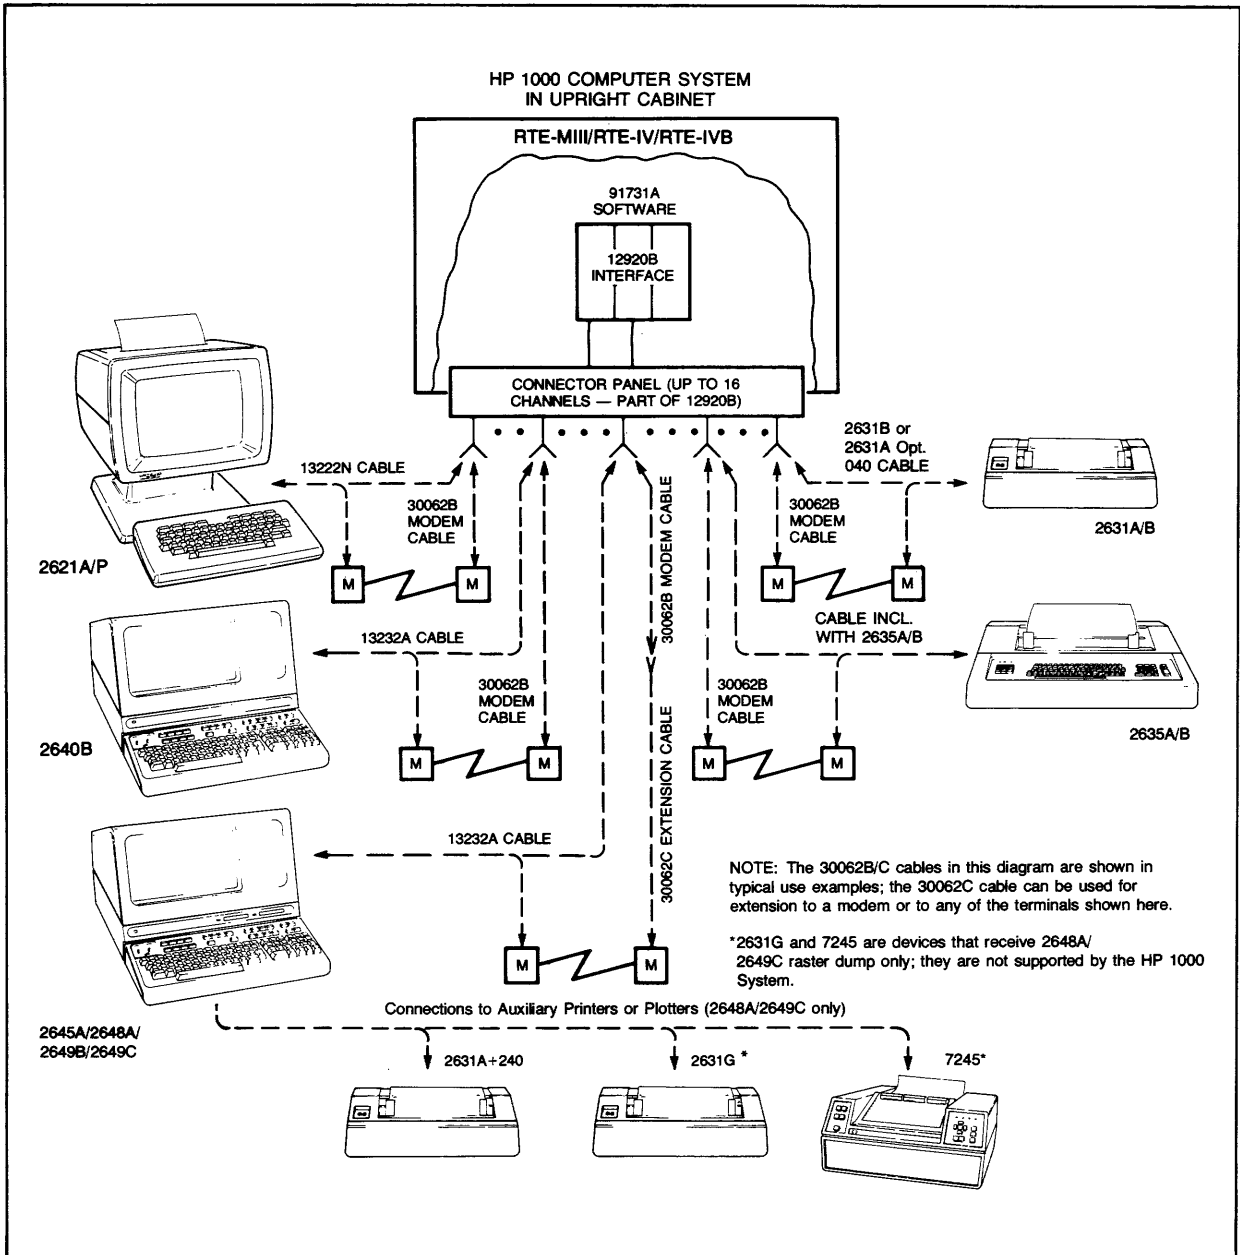

Figure 1. Typical asynchronous multiplexer connections
\*\*WARNING: -12 volts on pin 17 of multiplexer panel connectors will destroy the receiver timing circuit of 264xA/B terminals connected using older 13232N cables. This voltage may also present a danger to other terminals unless the cables shown in the connection diagram of Figure 1 are used only with the terminals they are shown connected to.
**Installation:** To install, plug the two data interface cards into adjacent slots in the computer I/O backplane and the control interface into a third I/O slot, adjacent to the data interfaces. If used, the 12920B option 001 second control card plugs into a fourth I/O slot. Mount the connector panel in the rear of the 29402B cabinet housing the computer (within reach of the 3.6m (12 ft) interface-to-connector panel cables), connect the data and control cable assemblies between the interface cards and the connector panel. Then integrate the asynchronous multiplexer and 91731A software into the computer's operating system and connect terminals and/or modems to it (see Figure 1).